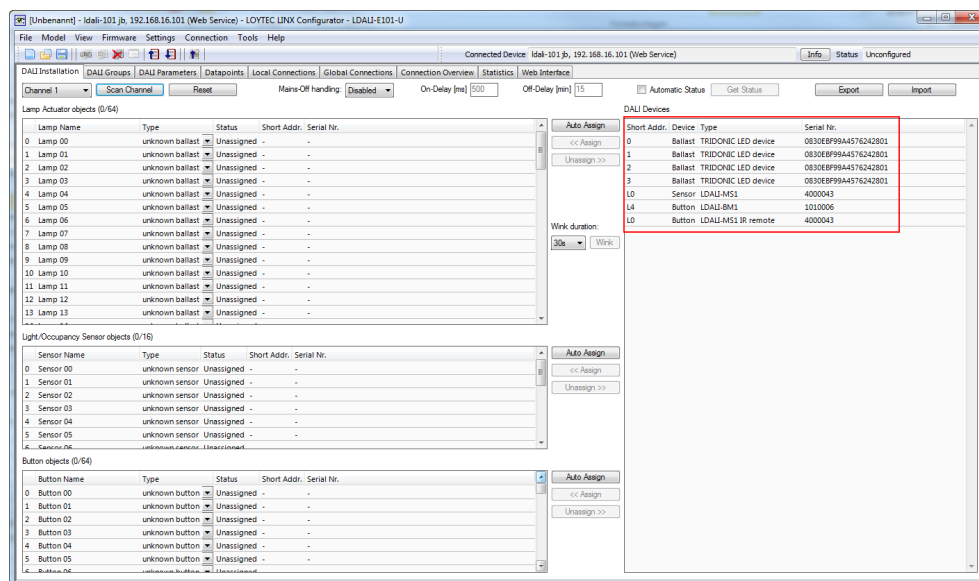

Figure 62: LINX Configurator software, detected DALI devices.
3. The L-DALI device scans the selected channel and displays all detected devices as shown in Figure 62. In case an error occurs see the LOYTEC Device User Manual [1] for a description of the error codes and possible reasons.